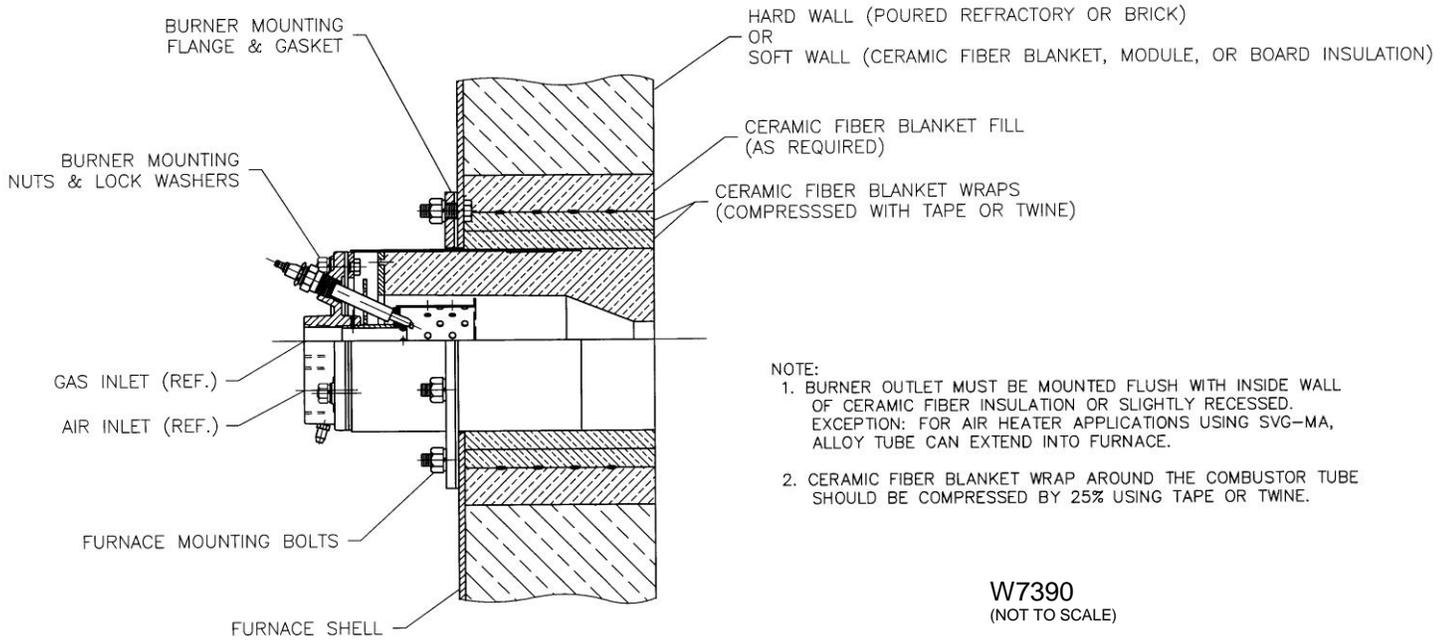

Figure 1. Burner Installation
5. For installation in an existing hard or soft wall furnace (see Figure 1), make the hole in the insulating material, where the burner tile will be installed, 3 to 6" (76 to 152mm) larger than the outside diameter of the tile.